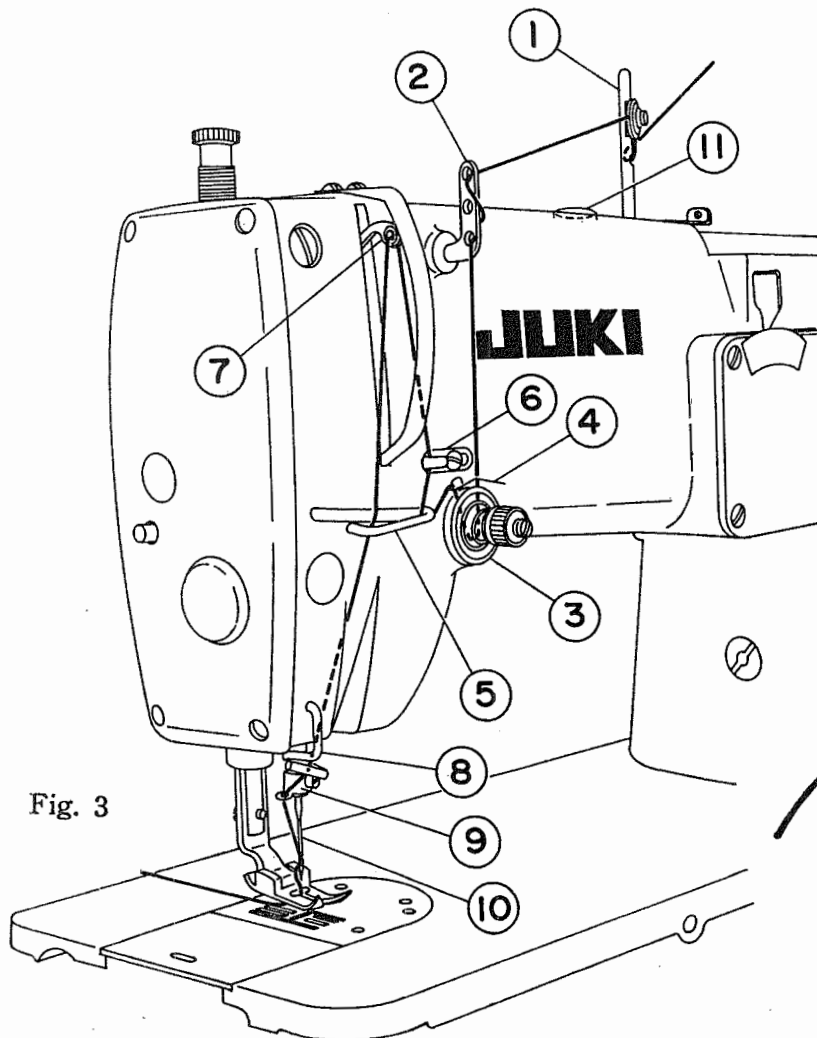

Fig. 3
## 6. Threading the machine (Fig. 3)
Pass the needle thread in the order of ①~⑩ as shown in Fig. 3. After the threading is completed, pull out the tip of the passed thread about 10cm (about 4").
To determine the position of the needle throw, remove the cap (Fig. 3 ②) near the arm thread guide bar, loosen the set screw of the bevel gear of the main shaft, and as you watch the needle drop, adjust the position by slowly sliding the position of the gear and at the correct position of the needle throw, tighten the set screw of the gear securely. (Fig. 11, 12, 13, 14).